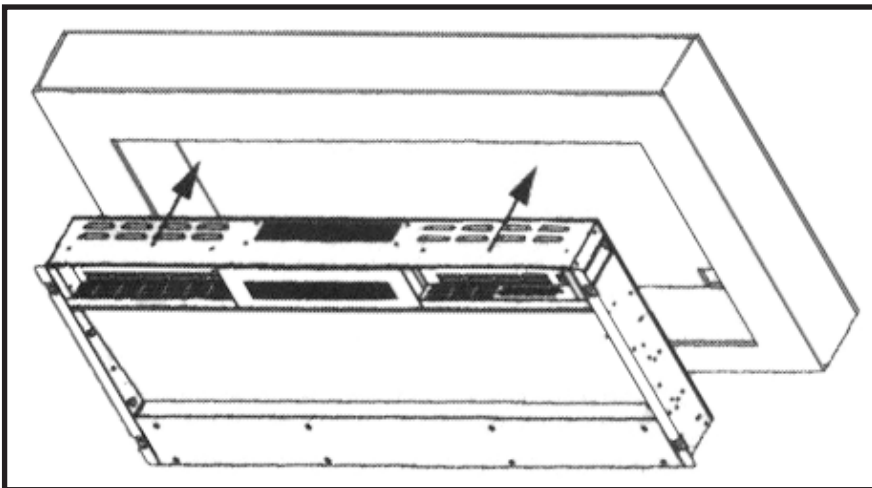

Fig. 2
- For optimum viewing, mark the left and right screws. Fixing positions on the wall in accordance with the appliance's holes. See Fig. 2